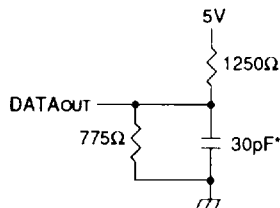

Figure 1. Output Load
Output Load	See Figures 1 & 2
1. Transition is measured ±500mV from low or high impedance voltage with load (Figures 1 and 2).
1. Transition is measured ±500mV from low or high impedance voltage with load (Figures 1 and 2)